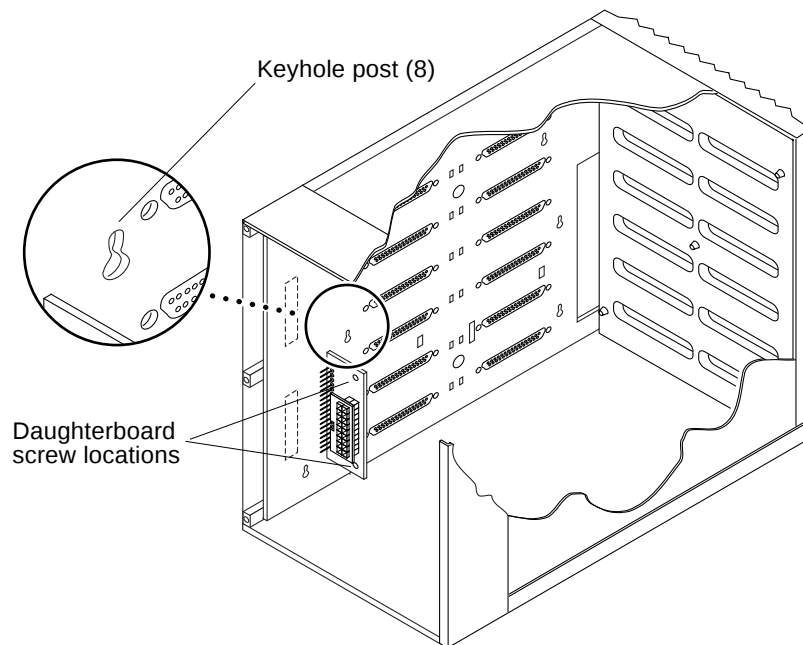

FIGURE 6-6 Detaching the Backplane
12. Remove the two screws that secure the daughterboard to the chassis (FIGURE 6-6).
Note – The backplane is attached to the right wall of the chassis by resting on eight keyhole posts (FIGURE 6-6).
13. Lift up slightly on the backplane to slip it off the keyhole posts (FIGURE 6-6).
2. **Align the keyholes on the backplane to the keyhole posts on the chassis, and carefully hang the backplane on the posts (FIGURE 6-6).**
- 5. Insert and secure the two screws that connect the daughterboard to the chassis (FIGURE 6-6).**